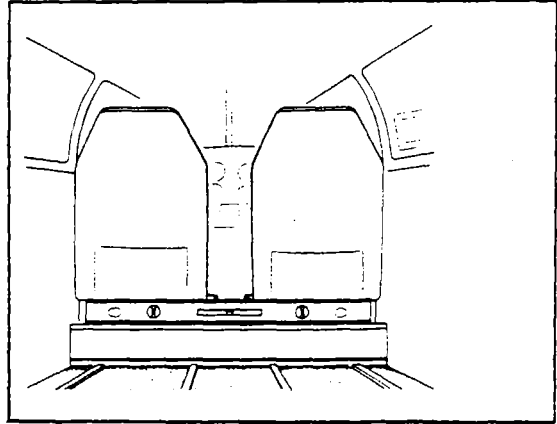

Figure 2-7. Leveling Laterally
b. To laterally level the airplane, place a spirit level across the baggage compartment floor along the rear bulkhead (Refer to Figure 2-7.) and deflate the tire on the high side of the airplane or adjust either jack until the bubble of the level is centered.